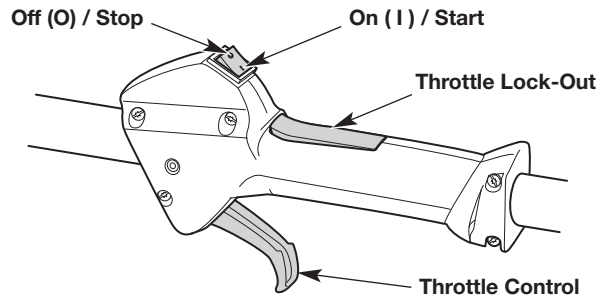
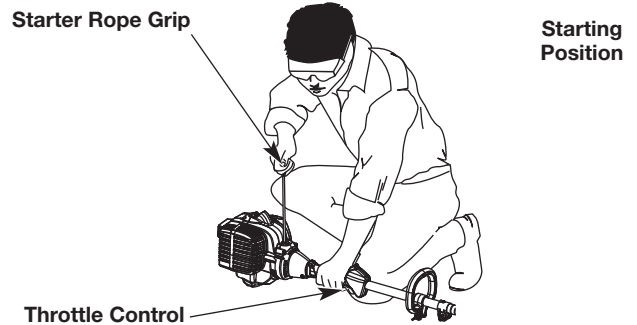

Fig. 10
Fig. 12
**WARNING:** Avoid accidentally starting the unit. To avoid serious injury, the operator and the unit must be in a stable position when pulling the starter rope (Fig. 12).
**NOTE:** There is no need to turn the unit on. The On/Off switch is in the ON (I) position at all times (Fig. 10).
5. Crouch in the starting position (Fig. 12).
6. Press the throttle lock-out and squeeze the throttle control (Fig. 10). Pull the starter rope with a controlled and steady motion **5 times** (Fig. 12).
2. Press and hold the On/Off switch in the OFF (O) position until the engine comes to a complete stop (Fig. 10).